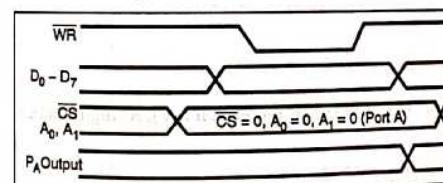

Fig. 9.5.2 : Timing waveforms for mode 0 output mode
- The timing waveform for Mode 0 output mode is as shown in Fig. 9.5.2.